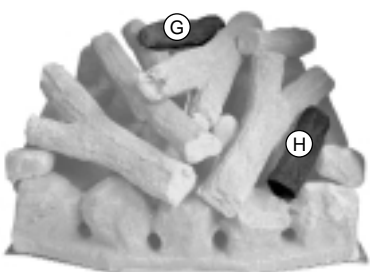

Fig. 43
7. Lay the logs in alphabetical order ensuring that they sit on top of the fuel bed peaks, not in between (Fig. 43).